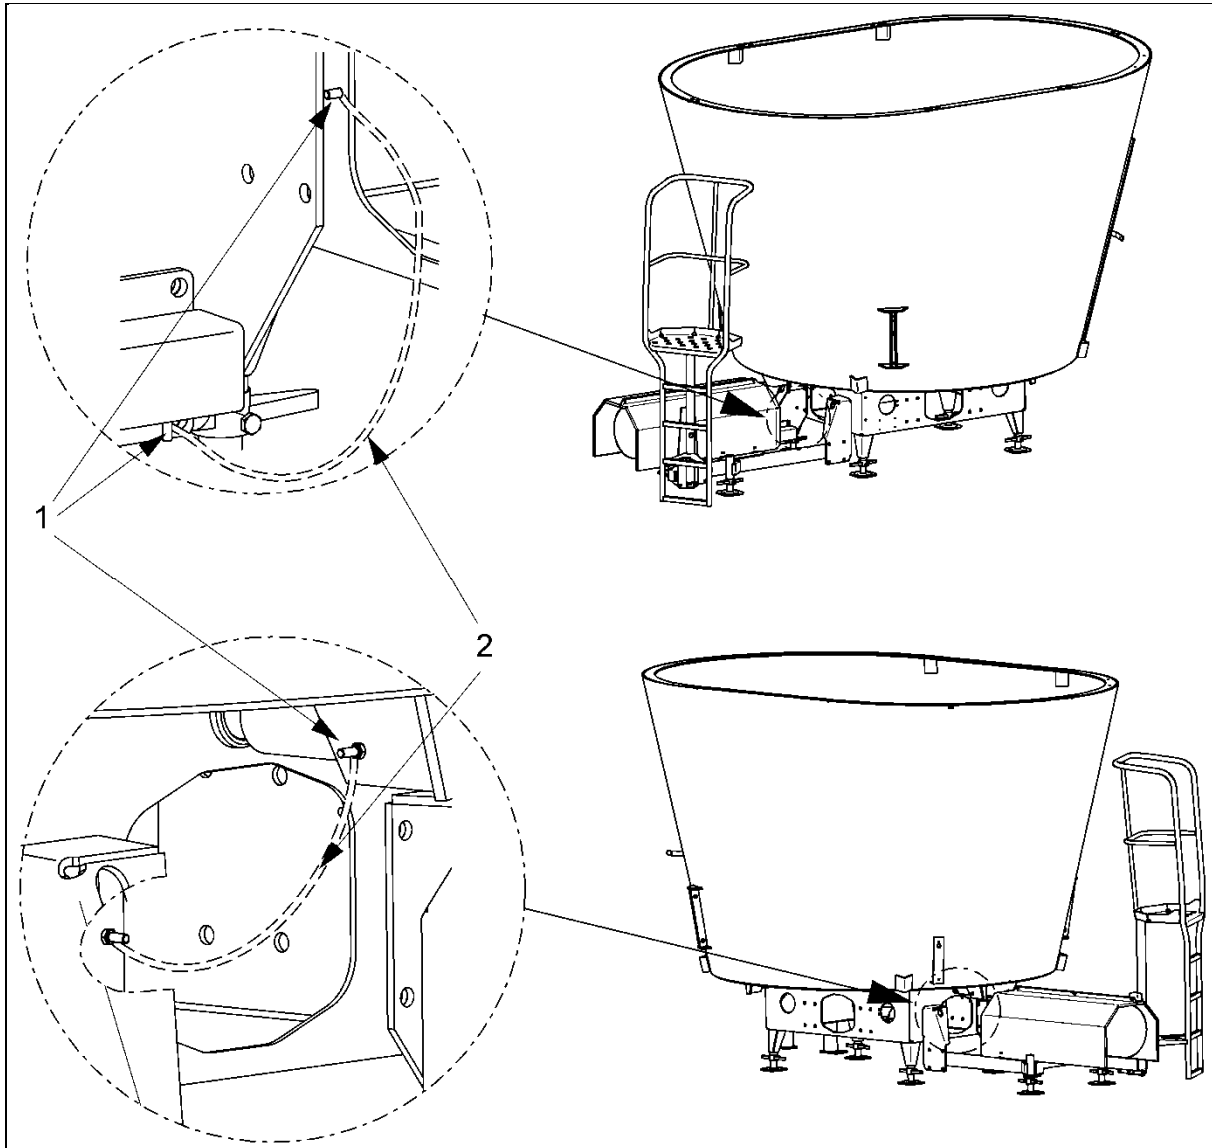
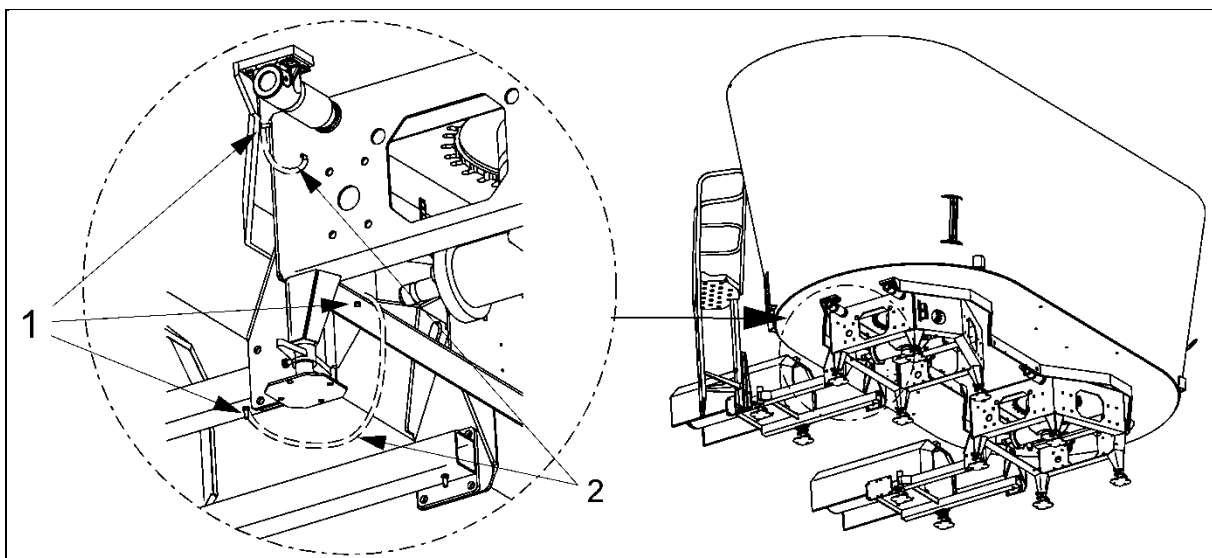

Fig. 31 Verti-Mix S
Fig. 32 Verti-Mix D-S
- 1.1 Screw the connecting cable (1) to an M8 screw (2) on the machine. For details refer to Fig. 31 for Verti-Mix S and to Fig. 32 for Verti-Mix D-S.